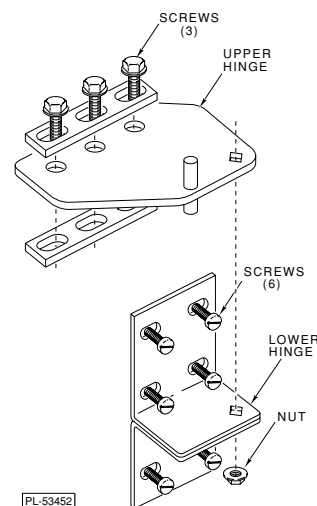

Fig. 3
3. Remove the three screws which secure the upper hinge plate to the cabinet (Fig. 3). This will remove hinge tension. Remove the nut underneath the lower hinge plate which secures the bottom hinge. Remove door. Remove lower hinge plate (Fig. 3).